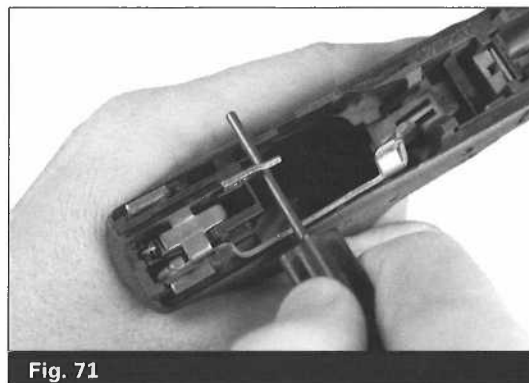

Fig. 71
- Using the pin punch, apply upward pressure under the ejector to raise the trigger mechanism housing assembly. You can also merely grasp the ejector and pull the assembly upwards. When the housing is withdrawn, the trigger assembly will be connected to the housing and the entire unit will come out together. (Fig. 71/72)